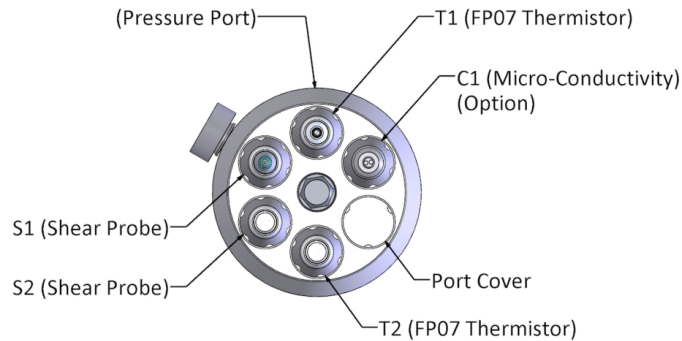

Figure 25: Nose cone sensor layout.
- (iii) Feed the sensor cables through the holes in the nose cone (Figure 24). We recommend the layout shown in Figure 25. Passing the SMC cables through each probe holder port is most easily accomplished by positioning the nose cone next to the front bulkhead at a ninety degree angle to the instrument. The cables are just long enough to reach all the way through the holders.